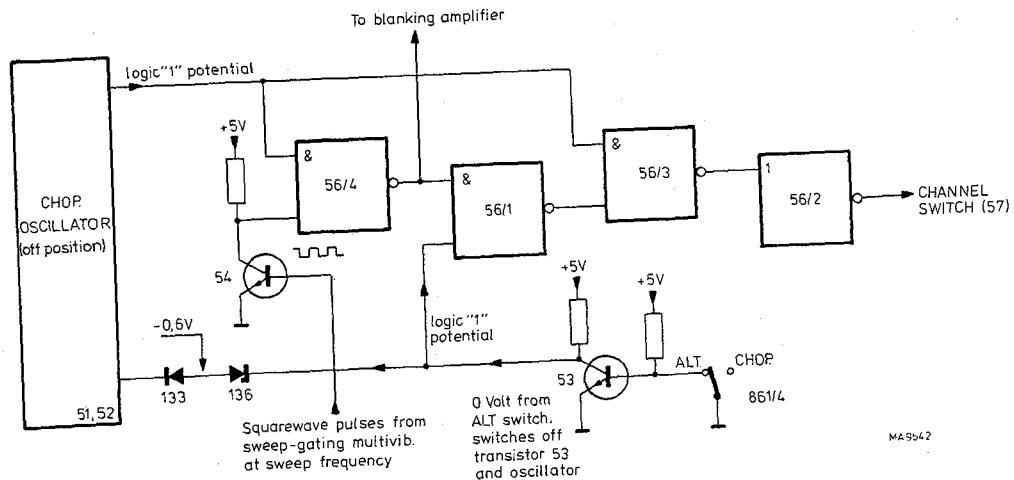

Fig. 3.5. Vertical channel switching – ALT mode
- A pulse from the sweep-gating multivibrator at the end of each sweep is applied to the base of transistor 54. The output of 54 is applied to input 13 of logic NAND gate 56/4. One output of 56/4 is fed via NAND gates 56/1 and 56/3, and via inverter 56/2 to switch the flip-flop, thus allowing the A and B channels for alternate sweeps. Another output of 56/4 is routed to the blanking stage for blanking. In this mode, switching transistor 53 is not conducting because of the earth potential at its base. During the time that transistor 53 is not conducting the CHOP oscillator is switched off (see Fig. 3.5).